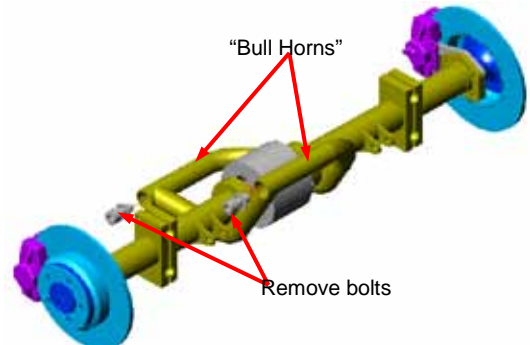

Figure 23
It is only necessary to loosen the two 3/4" bolts (Figure 23) and rotate the "horns" to slip the drive belt in. Replace the two 3/4" bolts and install the complete Rear End to the swing arm using the instructions below for the attachment of the Rear End to the adjustment plates.
- Remove the two 3/4" x 1 1/2" L Socket Head Cap Screws (5/8" Allen wrench) from the Bullhorns connecting the left side of the Axle Housing to the right. Figure 23